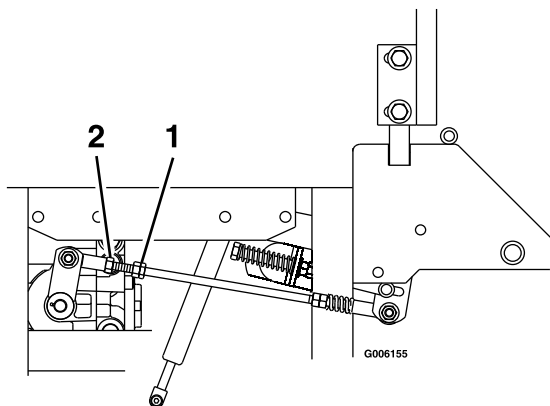

Figure 28
5. Loosen lock nuts from the ball joints at each end of the pump control linkage (Figure 28).
8. Bring the motion control lever into the neutral position. Adjust RH pump control rod length by rotating the double nuts on the rod in the appropriate direction until the wheels slightly creep in reverse (Figure 28). Move the motion control lever to the reverse position and while applying slight pressure to the lever allow the reverse indicator spring to bring the levers back to neutral. The wheel must stop turning or slightly creep in reverse. When adjustment is complete, tighten lock nuts onto ball joints.